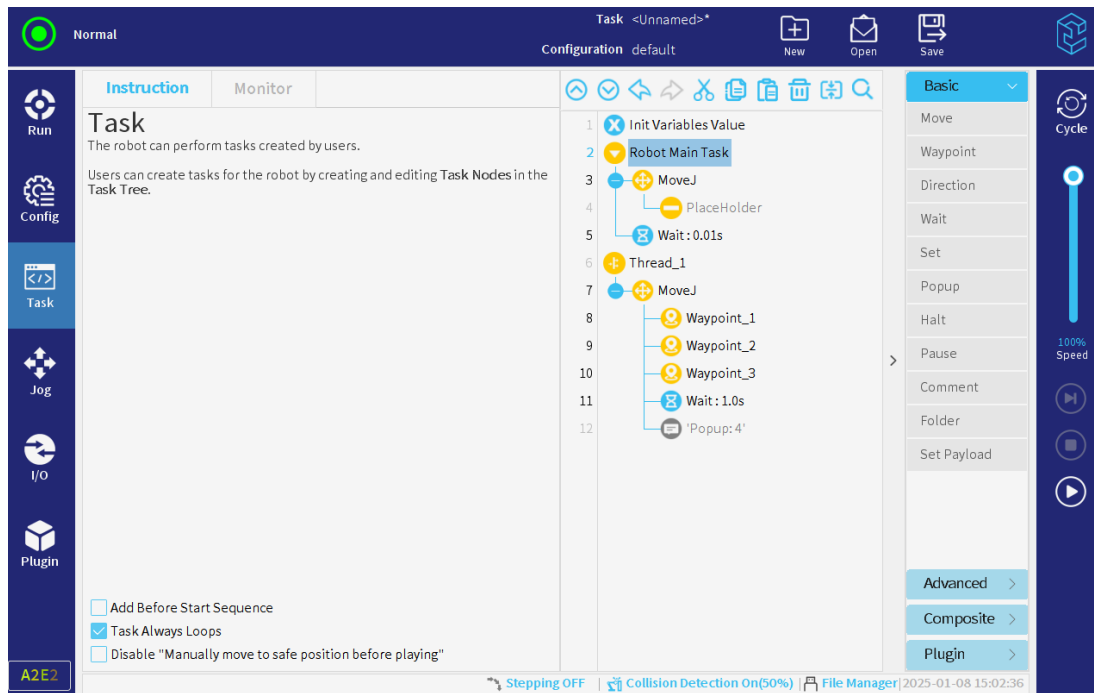

Figure 3-130 : Breakpoint
- If these nodes are selected, the line number goes to light blue (see the line number "6" in **Figure 3-130**);
- If they are not selected, the line number is marked as light grey (see the line number "4" in **Figure 3-130**).